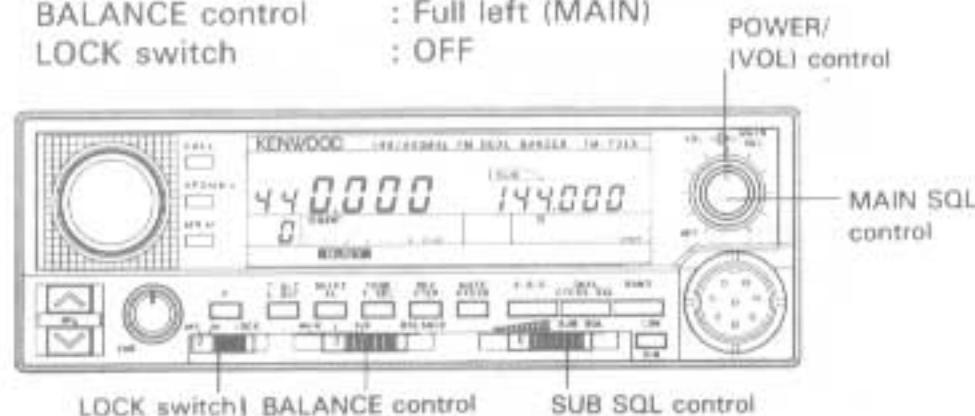

Fig. 1
- When connect a speaker to MAIN/SUB jack, audio signals from both bands will be heard only from the external speaker. (Fig. 1)
2. Turn ON the DC power supply and then turn the transceiver's power switch ON. The display panel will indicate as shown in Fig. 1. Additionally some control and key lights will turn on.
If the display is not as shown Fig. 1 reset the microprocessor using the procedure give in Microprocessor memory Initialization Page 23.